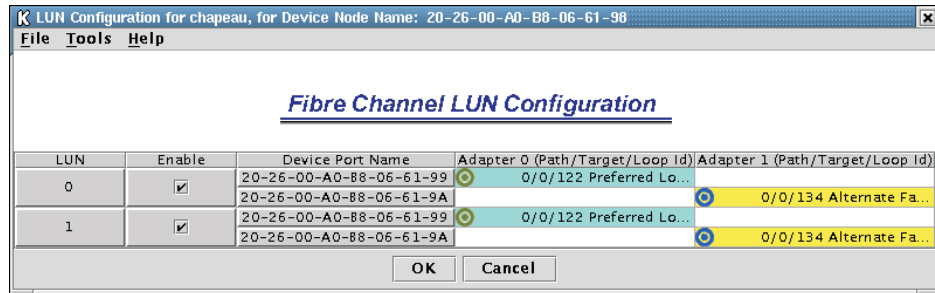

Figure 150. Fibre Channel LUN Configuration window
7. Click **Configure LUNs**. The LUN Configuration window opens (see Figure 150).